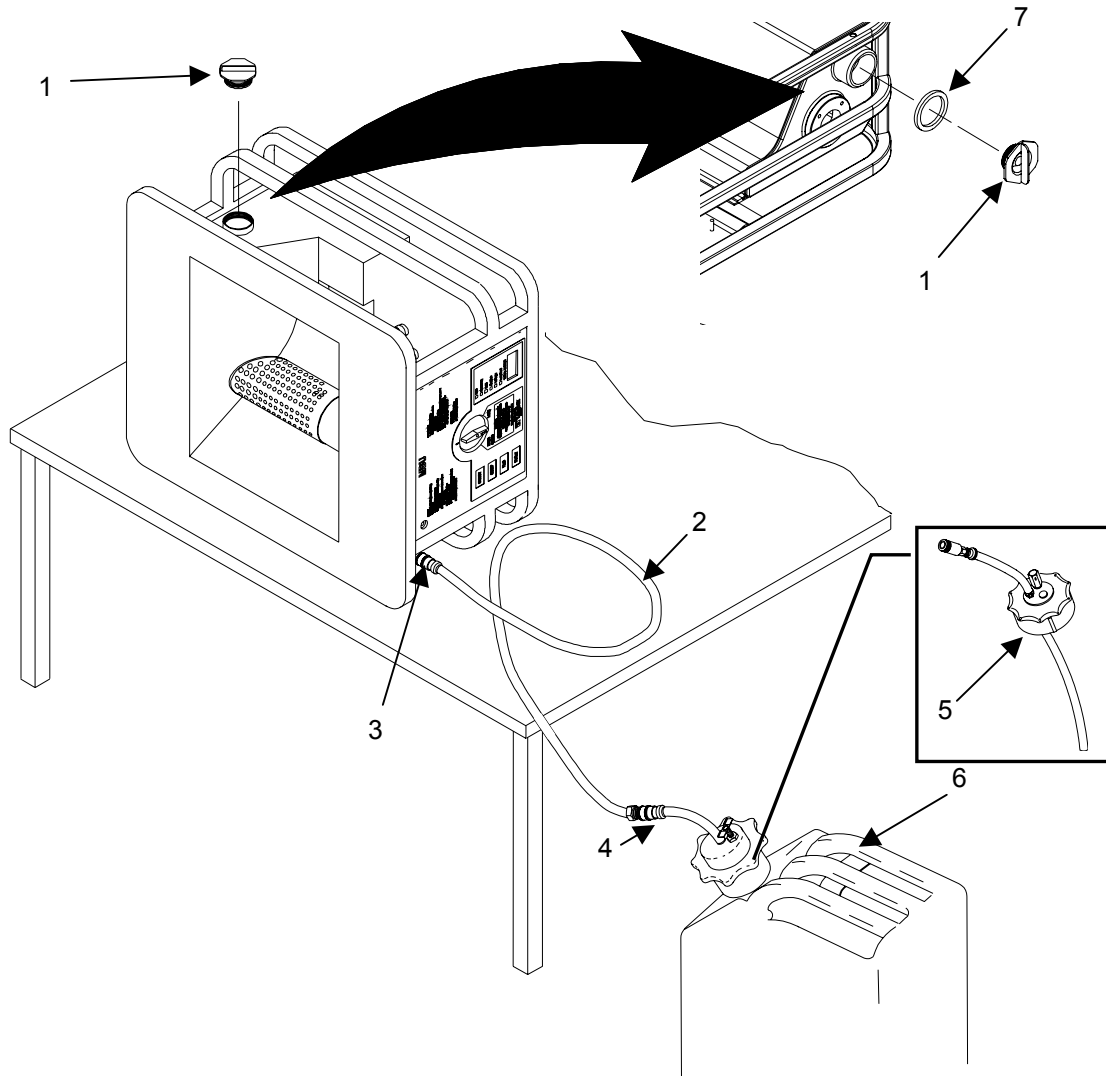

Figure 1. Drain the Fuel Tank
1. Place MBU on its left side so the fuel tank fill cap (**figure 1, item 1**) is on top.
2. Connect the fuel hose (**figure 1, item 2**) to the fuel fill quick disconnect (**figure 1, item 3**) on the burner, and connect the other end to the fuel can adapter (**figure 1, item 4**). The fuel can (**figure 1, item 6**) must be located close to and lower than the MBU to allow the fuel to drain out. Coil the excess fuel hose and place on table beside MBU.
3. Remove tank fill cap (**figure 1, item 1**). Open manual relief vent (**figure 1, item 5**) on Fuel Can Adapter (**figure 1, item 4**).
Ensure the fill cap seal (**figure 1, item 7**) is serviceable. The fill cap seal must fully seal for the MBU to operate. Replace a worn or damaged seal.
4. When fully drained, replace fill cap (**figure 1, item 1**) and disconnect fuel hose (**figure 1, item 2**). Close manual relief vent (**figure 1, item 5**).